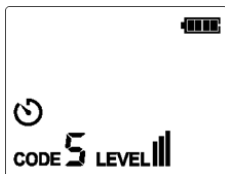

Figure 10.1.2c
3. For most applications, the default transmission strength is III (default code: 5), as shown in Figure 10.1.2c, the level shown on the LCD is III.